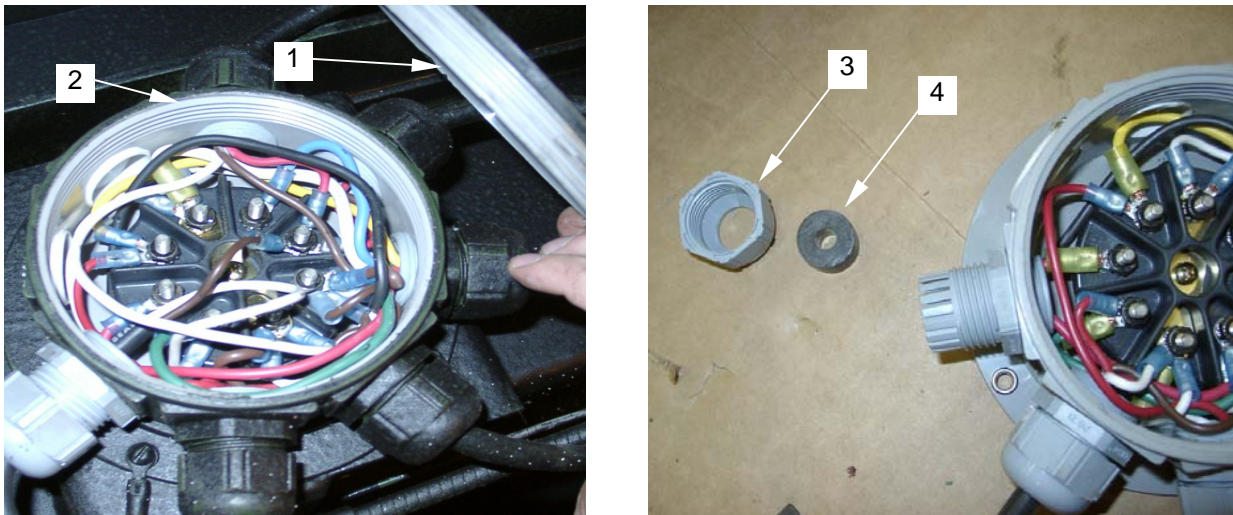

Figure 11. J-Box
8. Remove cover (**figure 11, item 1**) to J-Box (**figure 11, item 2**).
9. Loosen and remove strain relief mounting nut (**figure 11, item 3**) and grommet (**figure 11, item 4**).